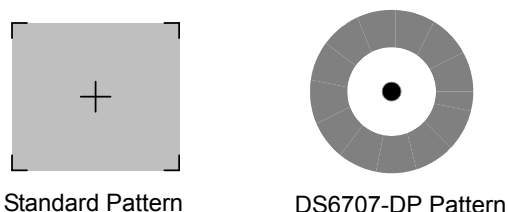

Figure 2-2 *Laser Aiming Pattern*
- When the digital imager scanner senses movement, in its default **Auto Aim** trigger mode, it projects a red laser aiming pattern (Figure 2-2) which allows positioning the bar code or object within the field of view. (To turn off the default **Auto Aim** trigger mode, see Trigger Mode on page 4-9.) If necessary, the digital imager scanner turns on its red LEDs to illuminate the target bar code.